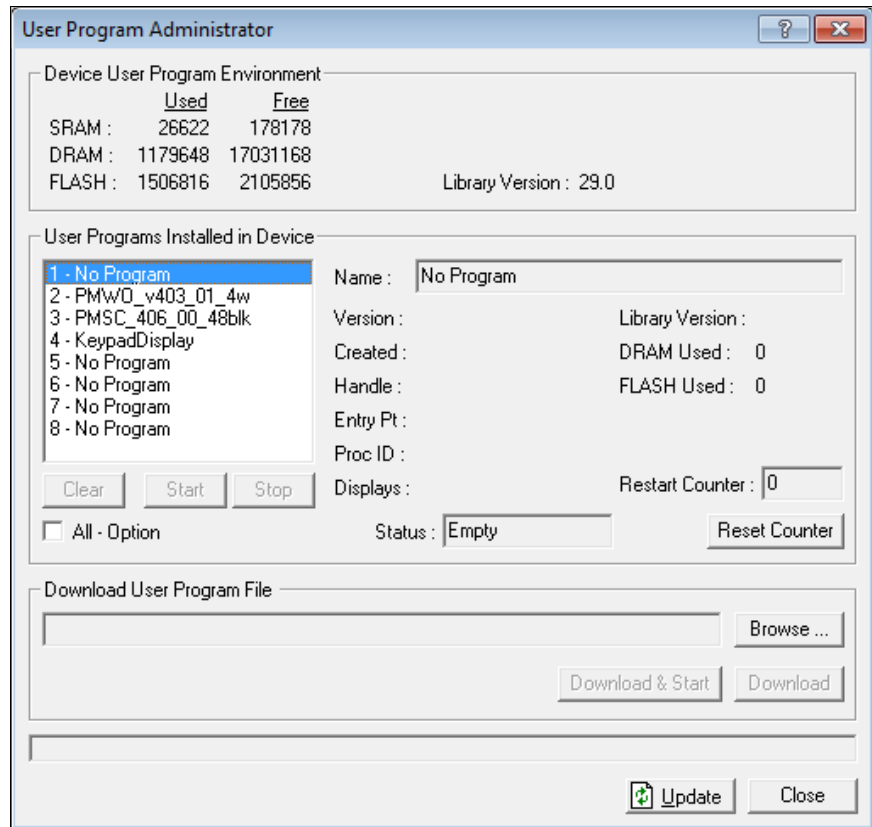

Figure 2-5. User Program Administrator
4. Select **Utilities > User Program Administrator** from the ROCLINK menu bar. The User Program Administrator screen displays (see *Figure 2-5*):
5. Click **Browse** in the Download User Program File frame. The Select User Program File screen displays (see Figure 2-5).